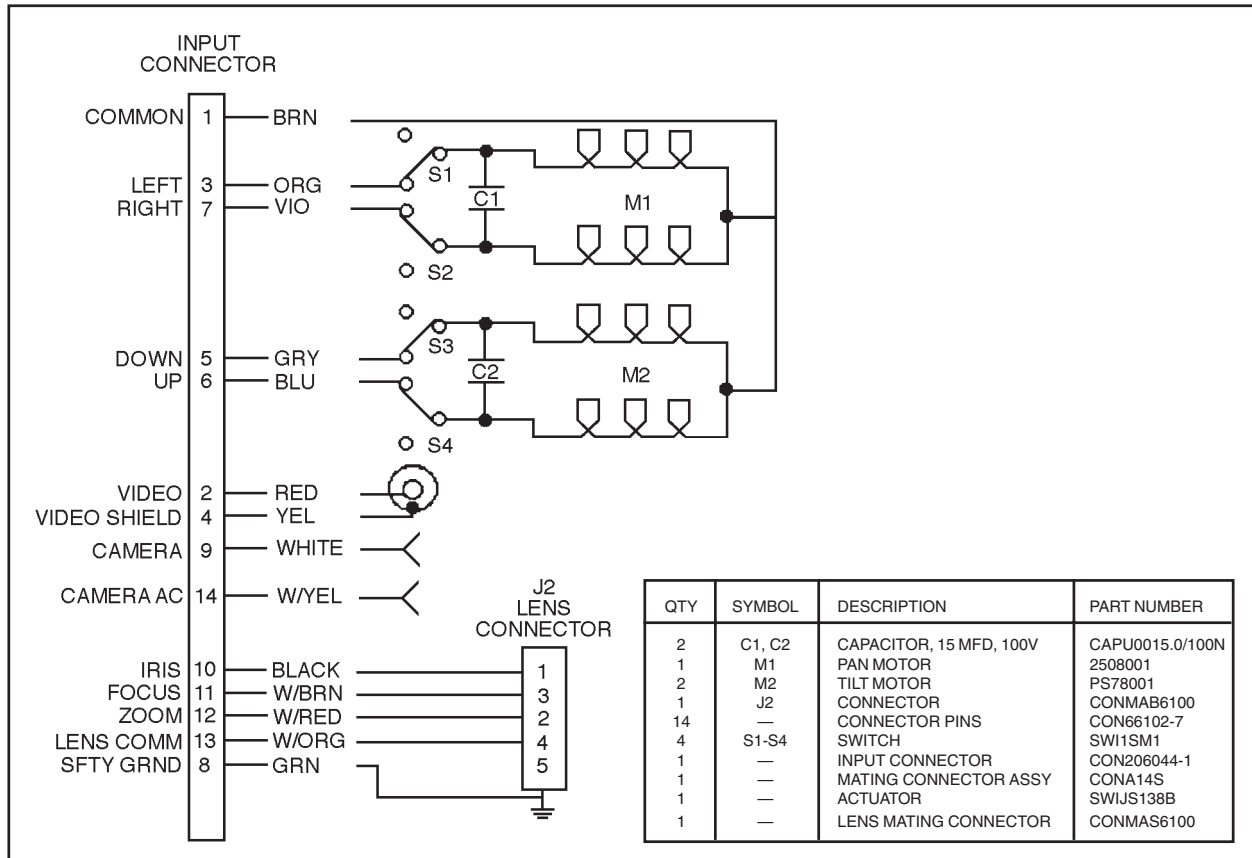

Figure 1. PT280-24P Wiring Schematic
**NOTE:** *If you are not using the C1906, C1906/PP, C1925, or C1925/PP pretested cable you must reverse the left/right and up/down function pins as shown in Figure 1.*